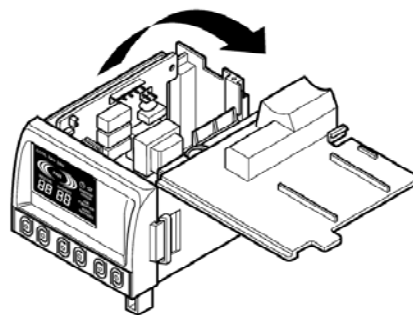

Figure 11
2. Open the top cover from the control box. (See Figure 11)